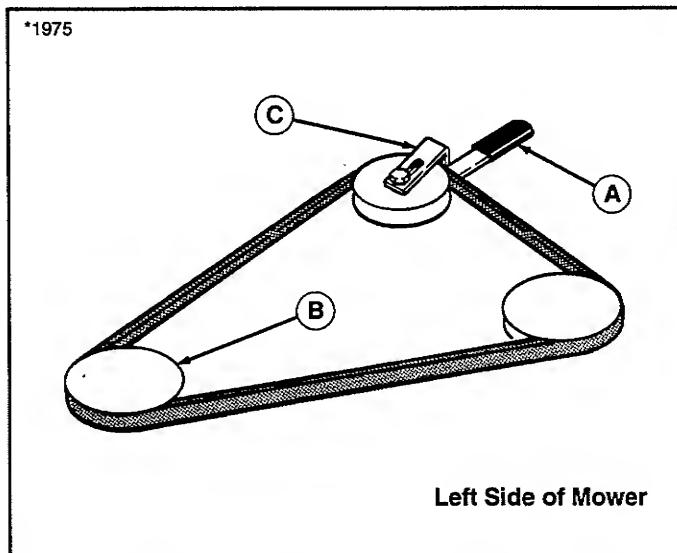

Figure 37. Mower Belt Routing - 44" Mower Deck
- Push the idler arm (A, figure 37) away from you to relieve belt tension. Drop belt from the PTO (electric clutch) pulley.
- Position the bracket belt stop (C, figure 37) up against arm (A) so that there is a $1/8"$ gap between pulley and belt stop.